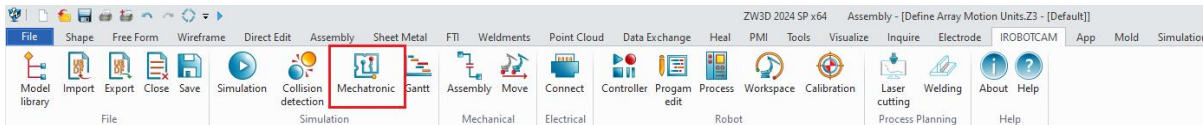

Figure 7-5: Mechatronic
- Navigate to the "Mechatronic" tab within the "IROBOTCAM" interface. (Figure 7-5)